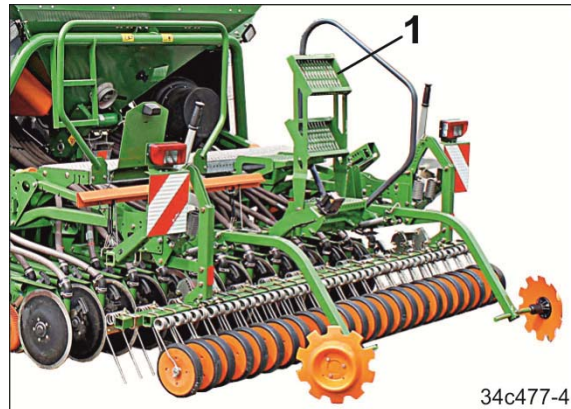

Fig. 107
1. Take hold of the steps (Fig. 107/1).